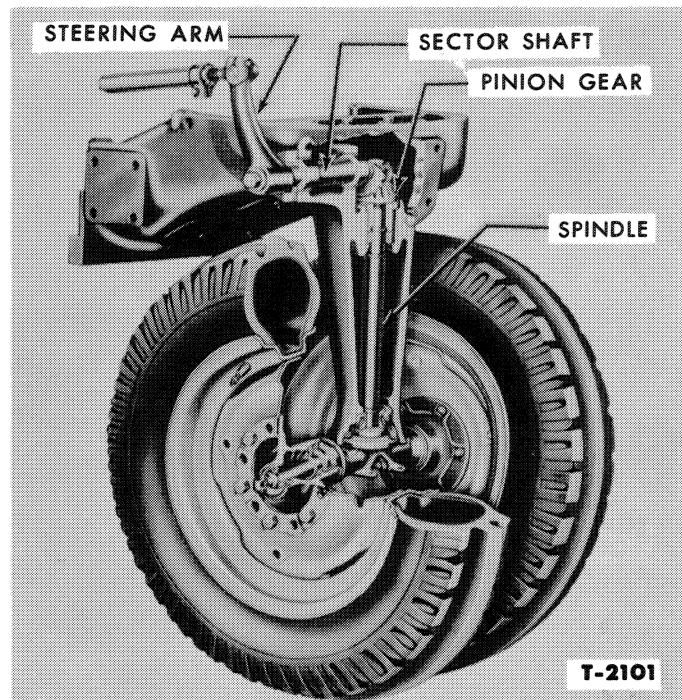
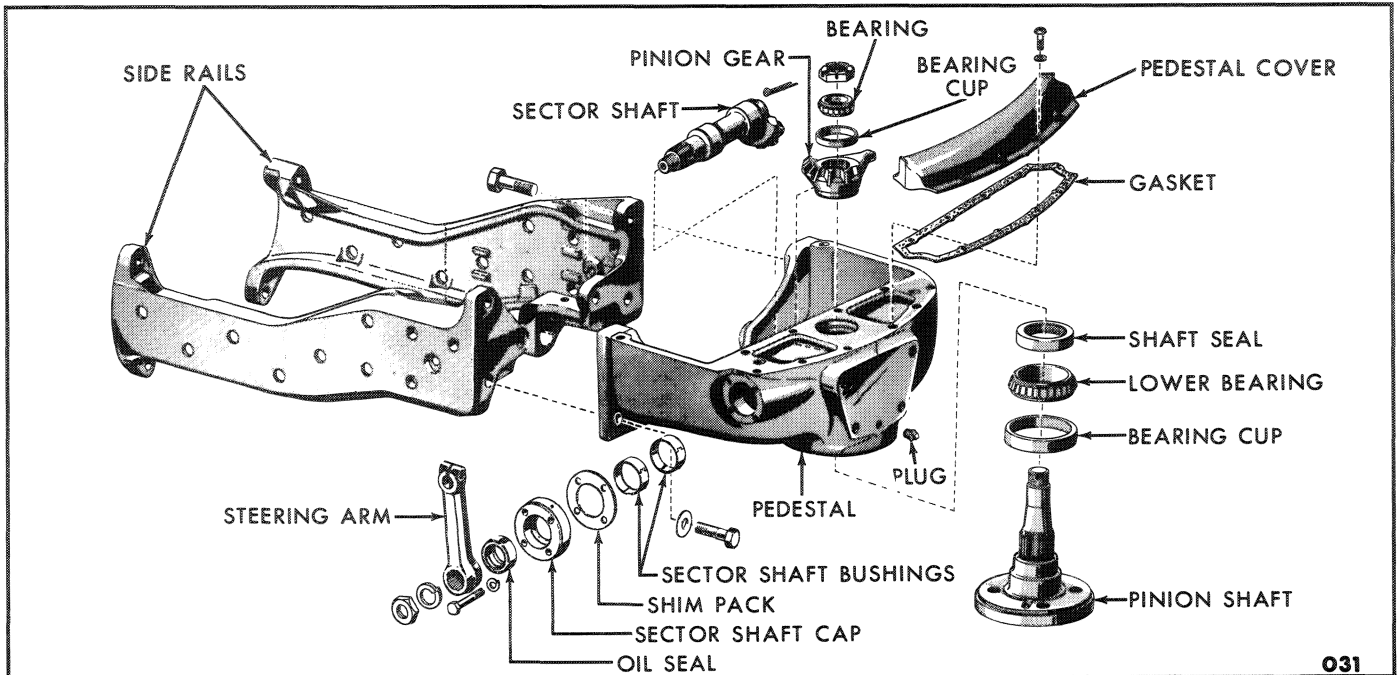

Figure 14—Pedestal Assembly—Early Model
Figure 15—Pedestal Assembly—Late Model
On "Row Crop" tractors, a pedestal assembly is bolted to the engine side rails and serves as the front support of the tractor. On models prior to Serial No. 110986, the pedestal had a long spindle housing to which a long shank dual wheel spindle was assembled. Beginning with Tractor Serial No. 110986, the spindle housing was reduced in height and a pinion shaft was assembled to the pedestal in the same manner as the spindle. The pinion flange accommodates all three front axle options. Figure 14 is a cutaway of the early pedestal assembly. Figure 15 is an exploded view of the new pedestal assembly. Assembly and disassembly procedures are given for both models.
1. Remove the four bolts and lock washers from the sector shaft cap and remove the cap, shim pack, and shaft seal, Figure 15.